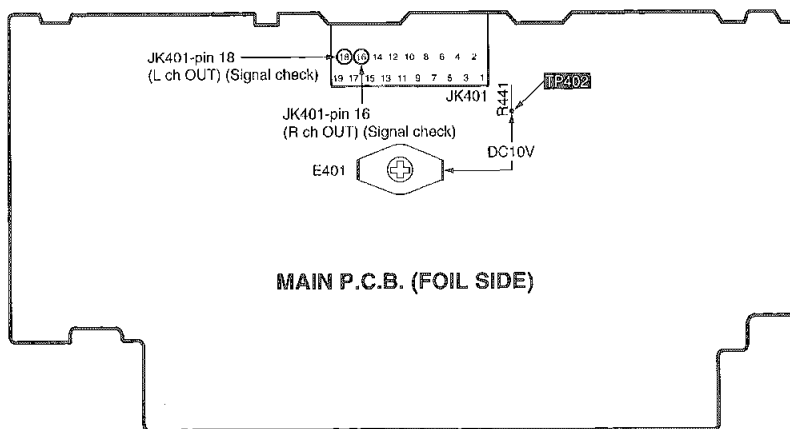

Fig. 9-1.
1. Apply 10 V DC power to the section between TP402 (far side from rear panel of R441) and earth plate (E401). Refer to Fig. 9-1.
Connect the oscilloscope or the speaker with built-in amplifier to the section between JK401-pin 16 (R ch OUT) and earth plate (E401) (GND) as well as the section between JK401-pin 18 (L ch OUT) and earth plate (E401) (GND) and check if the signals are outputting from this unit. Refer to Fig. 9-1.